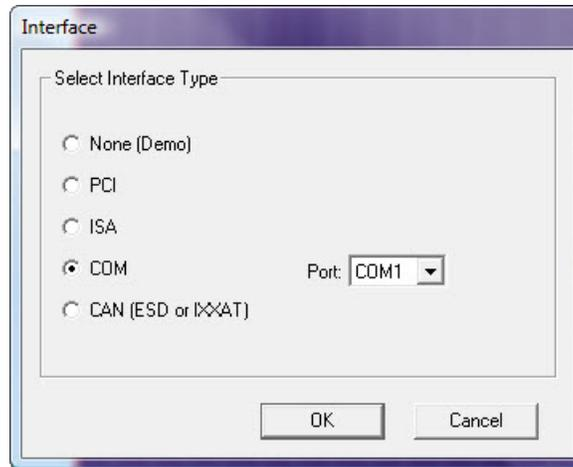

Figure 2-2: Interface dialog box
- If Pro-Motion® does not automatically establish communication with the Magellan®-based product the Interface dialog box (Figure 2-2) is displayed.